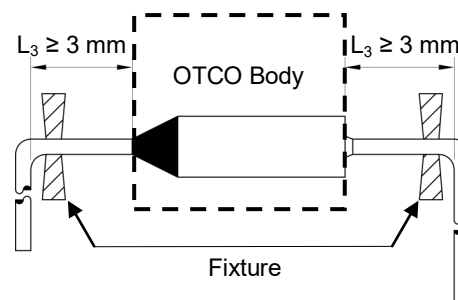

FIGURE RS-1
c. For T_h test, UL / cUL standard requests the thermocouples are placed on the surface of OTCO body (refer to Fig. RS-1) , while other standards request the thermocouples are placed on the sample isothermal point.
2. The lead wires should be bent at a distance 3 mm or above from the body of OTCO (see L_3 in Fig. RS-1).